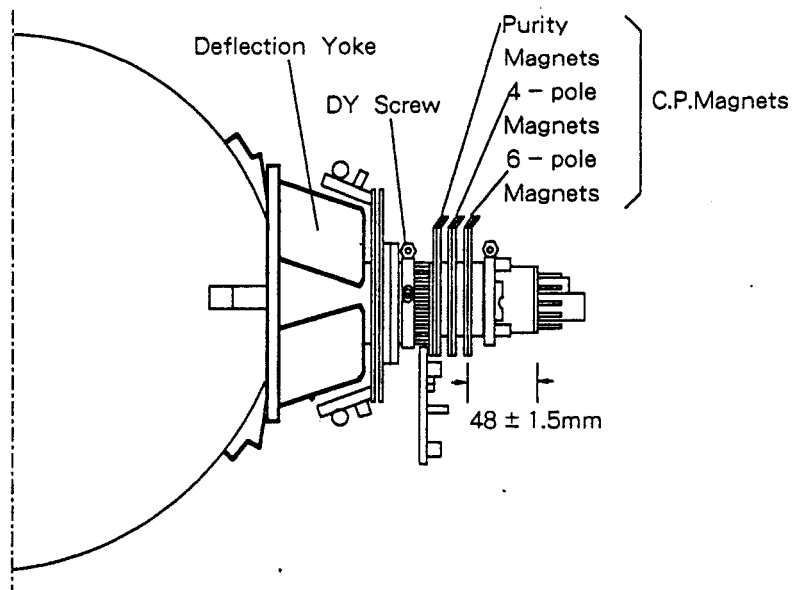

Fig. 14 - 1
- (1) Remove the deflection yoke and rubber wedges from the picture tube cone with care not to strike or scratch the cone surface.
- (2) Clean the remaining cement off the deflection yoke and the surface of the picture tube cone.
- (3) Put the deflection yoke on the neck of the picture tube, fully forward against cone.
- (4) Put the Purity Convergence assembly on the neck of the picture - tube so that the distance between the 6 - pole magnet and the base of the tube is  $48 \pm 1.5$  mm as shown in Fig. 14 - 1, and tighten screw by hand.
- (5) Demagnetize the front and sides of the picture tube with a degaussing coil.